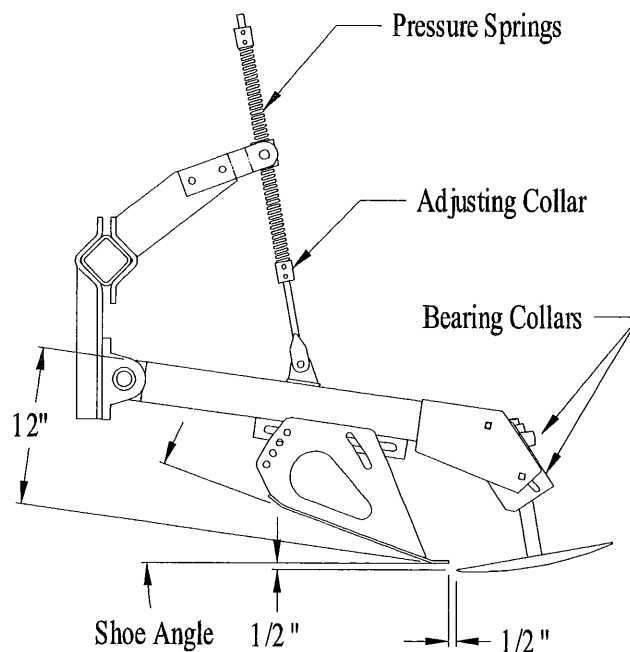

Figure 5.
#### 2. Unpowered Disk Scalper (Figure 5):
- Adjust the shoe angle so the bottom lip of the shoe is level when touching the ground and the bottom of the shoe is approximately 12" from the top of the scalper arm (see Figure 5).
- Adjust the disk to have a slight angle toward the shoe as illustrated in Figure 5. Remove the top bolt holding the disk assembly and only loosen the bottom bolt. Move the disk to the desired angle, and then reinstall the bolts (tighten securely). **Note: The relationship between the tip of the disk and the shoe will remain the same when the angle of the disk is changed.**